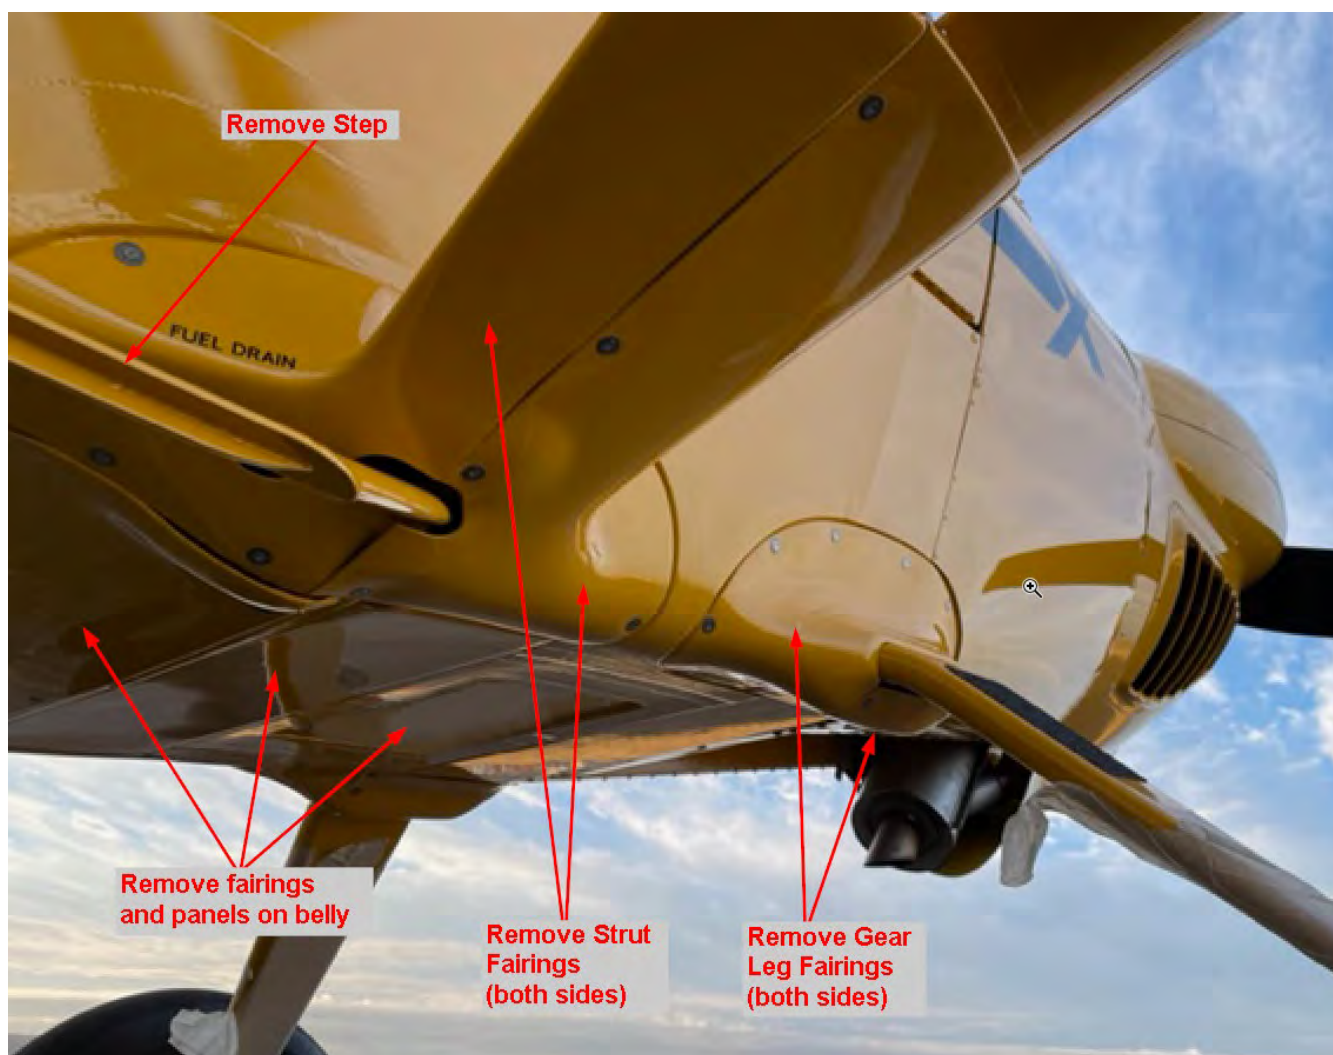

Figure 6 – Remove Fairings
8. Remove fairings on both sides of the aircraft that fair the existing spring gear to the fuselage. Retain hardware. (see Figure 6)
9. Remove fairings on both sides of the aircraft that fair the wing struts to the fuselage. Retain hardware. (see Figure 6)
10. Remove the rectangular cover on the belly just aft of the gear leg and set aside with hardware. (see Figure 6)
11. Remove the cover on the belly located just aft of the strut attachment fittings on the fuselage and set aside with hardware. (see Figure 6)
12. Remove the cover on the belly that spans between the strut attachment fittings on the fuselage. The hardware for securing this cover can be accessed through the openings made by removing covers in the two previous steps. (see Figure 6)
13. Remove the aft entry step on the right side of the plane. (see Figure 6)